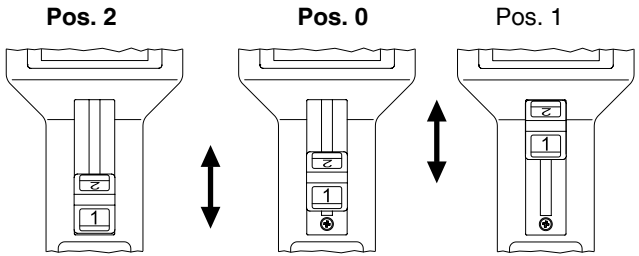

fig. 3.5.3b
- **Slowly** move the thumbpiece back into the adjustment position (Fig. 3.5.3b). It is important to ensure that the material to be measured runs smoothly between the measuring roller and the guide rollers.
- Push the thumbpiece into the measuring position (2) (Fig 3.5.3b).
- Push the thumbpiece in the direction of the arrow into its threading position (1) (Fig 3.5.3b).
- **Slowly** set back the thumbpiece into the adjustment position (0) (Fig. 3.5.3b).
- The thumbpiece must be in the adjustment position (Fig. 3.5.3b).